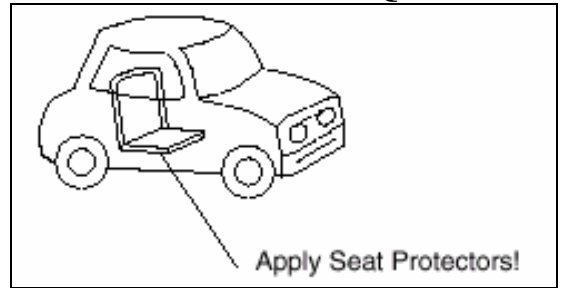

Figure A1
1. Use Seat and Floor Protectors to avoid damage to surfaces. (Figure A1)